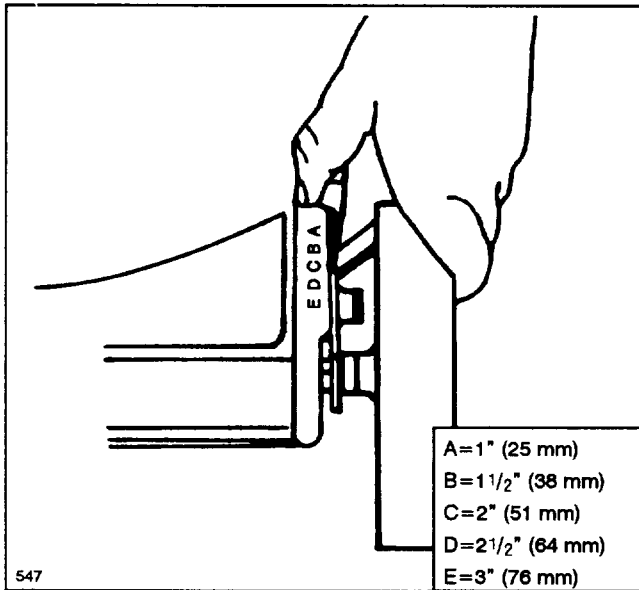

Figure 10
Five letters cast into the housing represent the height-of-cut settings (Fig. 10).
2. For easier adjustment, lift housing up so wheel is off ground. **Do not put fingers under housing when lifting.** Squeeze adjusting lever toward wheel and move to desired setting (Fig. 10). Ensure pin on adjusting lever engages notch in housing. Adjust all wheels to the same setting.